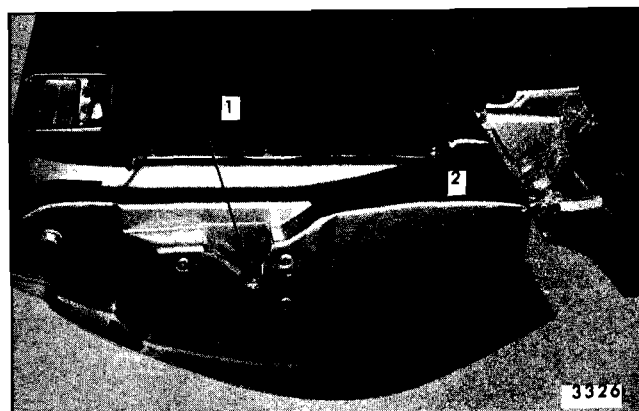
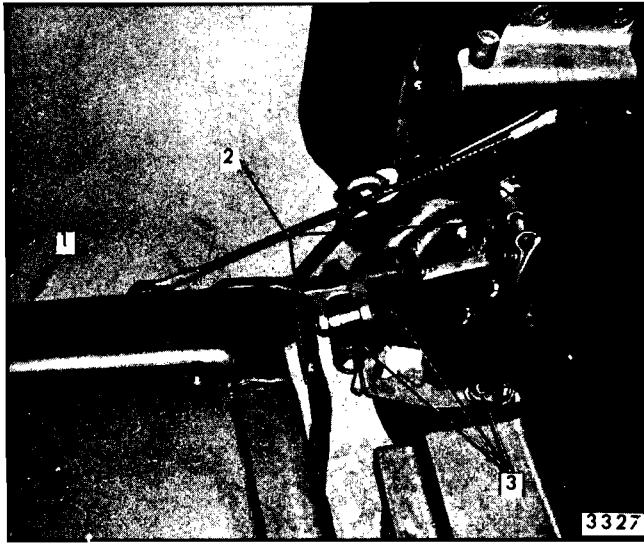

Fig. 2-11—Dual Acting Tailgate Lubrication - Right Side
Fig. 2-12—Dual Acting Tailgate Lubrication - Left Side
2. Apply a thin coat of grease stick lubricant (Doorease or equivalent) to the areas indicated by Point 1, Figure 2-11 (Right Side Shown, and Figure 2-12 Left Side Similar).
lube "A", Part No. 1050520 or equivalent) to contact surfaces of the torque rod to torque rod retainer (on bottom of tailgate), torque rod to torque rod assist link, and torque rod assist link to assist link retainer (on back body pillar), as indicated by Point 2, Figure 2-12.
- b. With dual-acting tailgate in gate position, apply a low temperature lubricant (dripless oil or equivalent) sparingly through the two oil holes provided, and onto the pivot pin for the hold-open feature on the left hinge assembly (Point 3, Figure 2-12, and apply a coating of wheel bearing lubricant or equivalent to the striker pin (Point 2, Figure 2-11 on the right hinge assembly.